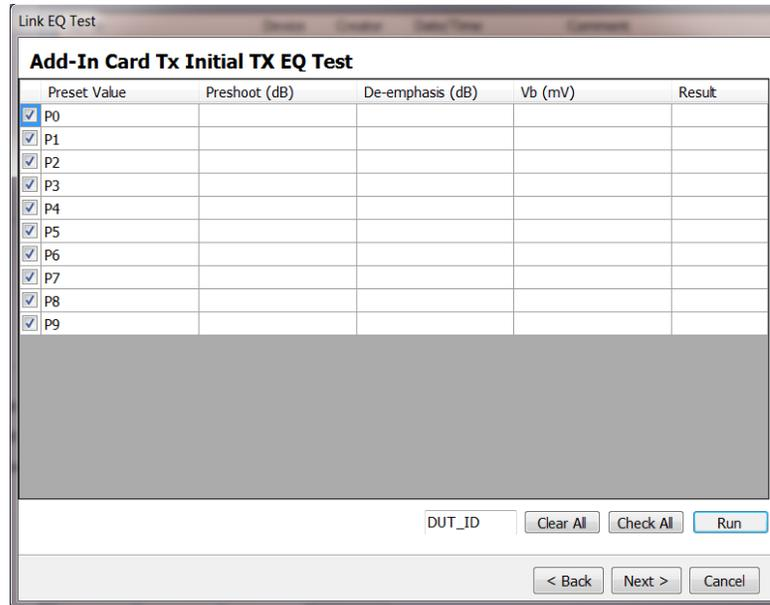

Figure-36: Result table for AIC transmitter initial Tx EQ test
13. On clicking the 'Next' button, a table is displayed as shown in Figure-36 where the user may choose either to run the test for all Tx equalization presets or for some of them by selectively enabling the desired Presets
- 14. Upon clicking the ‘Run’ button as shown in Figure-36, Rx-Test app starts the automated test procedure